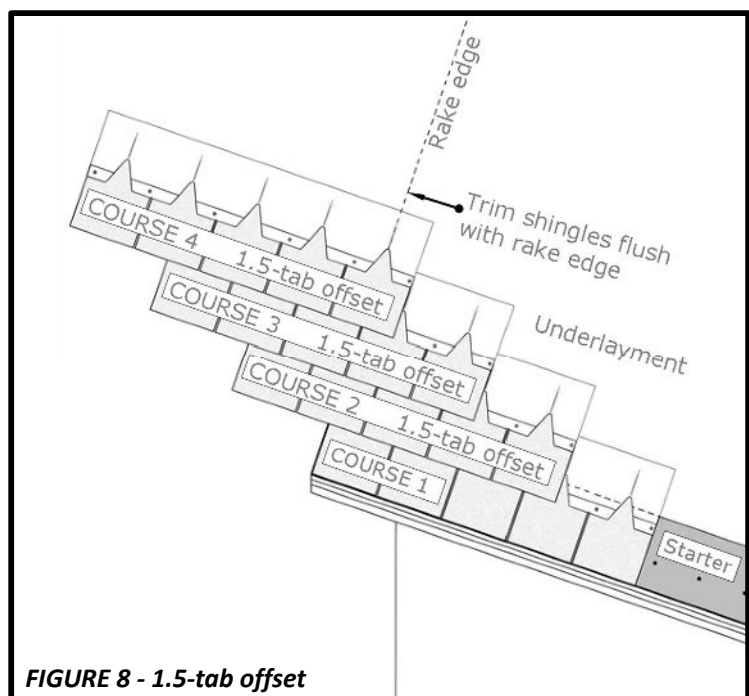

FIGURE 8 - 1.5-tab offset
- **COURSE 1** - Apply a **full shingle** flush with the starter course at the lower left-hand corner of the roof and secure with fasteners. See **Figure 8**. Continue to apply full shingles across the roof for the first course.
- Trim shingles flush with the rake edge. See **Figure 8**.